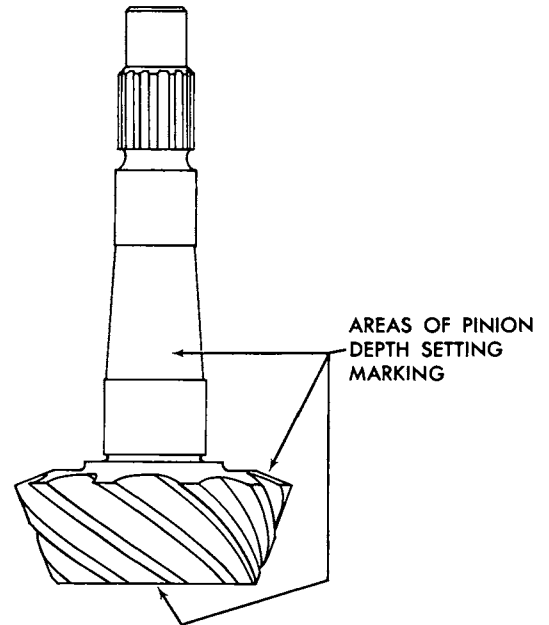

Figure 4B-34 Pinion Marking All Axles
**NOTE:** : All pinions will be marked in one of three places. See Figure 4B-34 for areas of pinion depth setting marking.